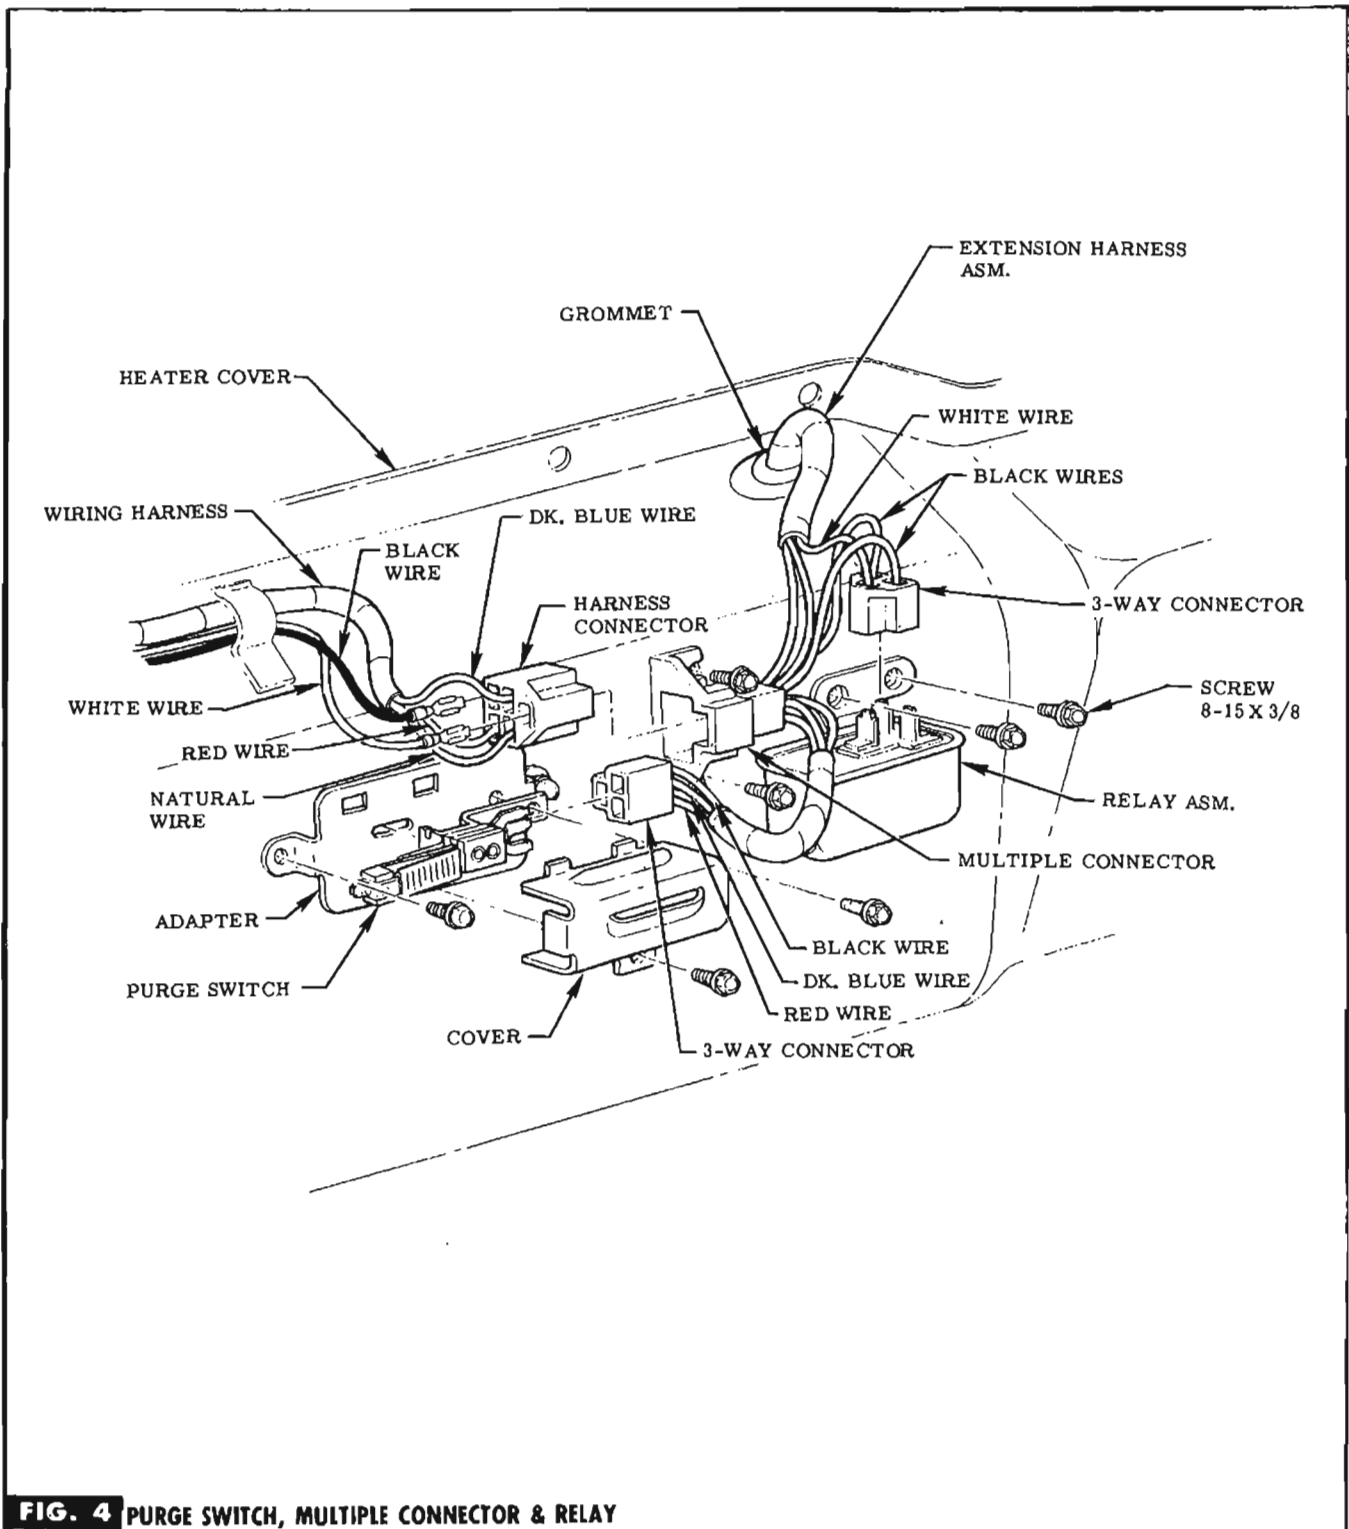

FIG. 4 PURGE SWITCH, MULTIPLE CONNECTOR & RELAY
STEP 19 SUB ASSEMBLE PURGE SWITCH & COVER TO ADAPTER WITH SCREWS (IN BAG A). SEE FIG. 4.
STEP 20 ATTACH ADAPTER SUB ASSEMBLY, MULTIPLE CONNECTOR & RELAY TO EXISTING HOLES IN COVER WITH SCREWS (IN BAG A). SEE FIG. 4.
INTO HARNESS CONNECTOR. SEE FIG. 4.
STEP 22 PLUG HARNESS CONNECTOR TO MULTIPLE CONNECTOR, 3-WAY CONNECTOR (BLACK & WHITE WIRES) TO RELAY & REMAINING 3-WAY CONNECTOR (BLACK, DK. BLUE & RED WIRES) TO PURGE SWITCH. SEE FIG. 4.